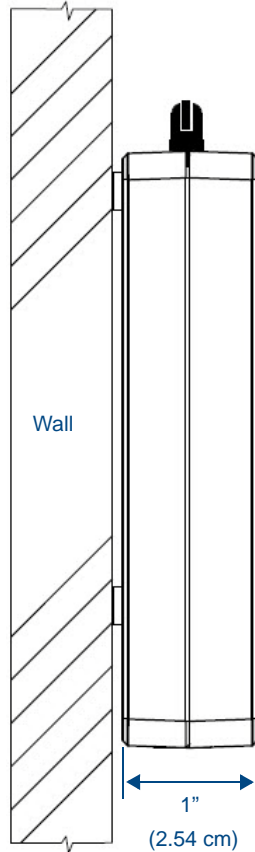
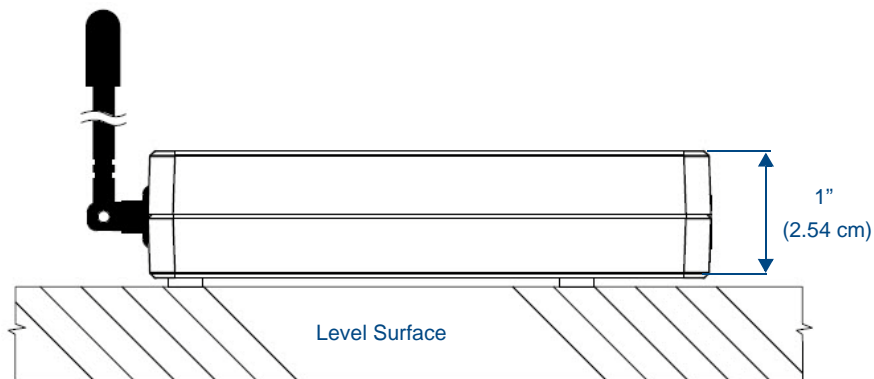
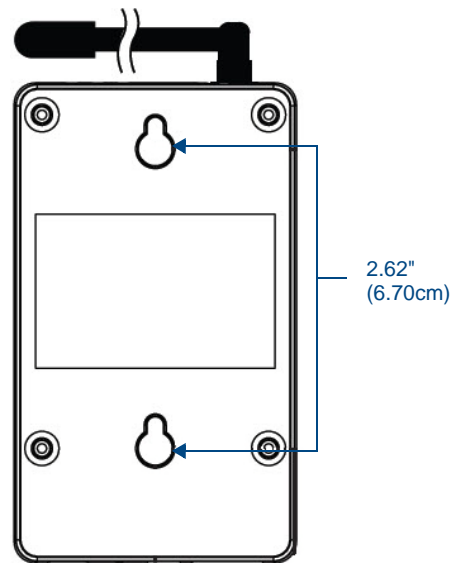

FIG. 3 NXB-CCG - Vertical Installation
FIG. 4 NXB-CCG - Horizontal Installation
FIG. 5 Underside of NXB-CCG
2. Mount vertically (FIG. 3) or horizontally (FIG. 4), using two #6 (M3) screws (FIG. 5). When mounting, allow 7 in (177.8 mm) clearance for the antenna and ensure convenient access to the power plug. In order to achieve proper RF performance, do not mount unit in a metal enclosure.